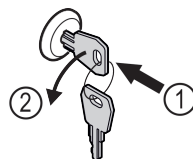

Fig. 205
- Insert the key. Fig. 205 (1)
- Turn the key anticlockwise by 90°. Fig. 205 (2)